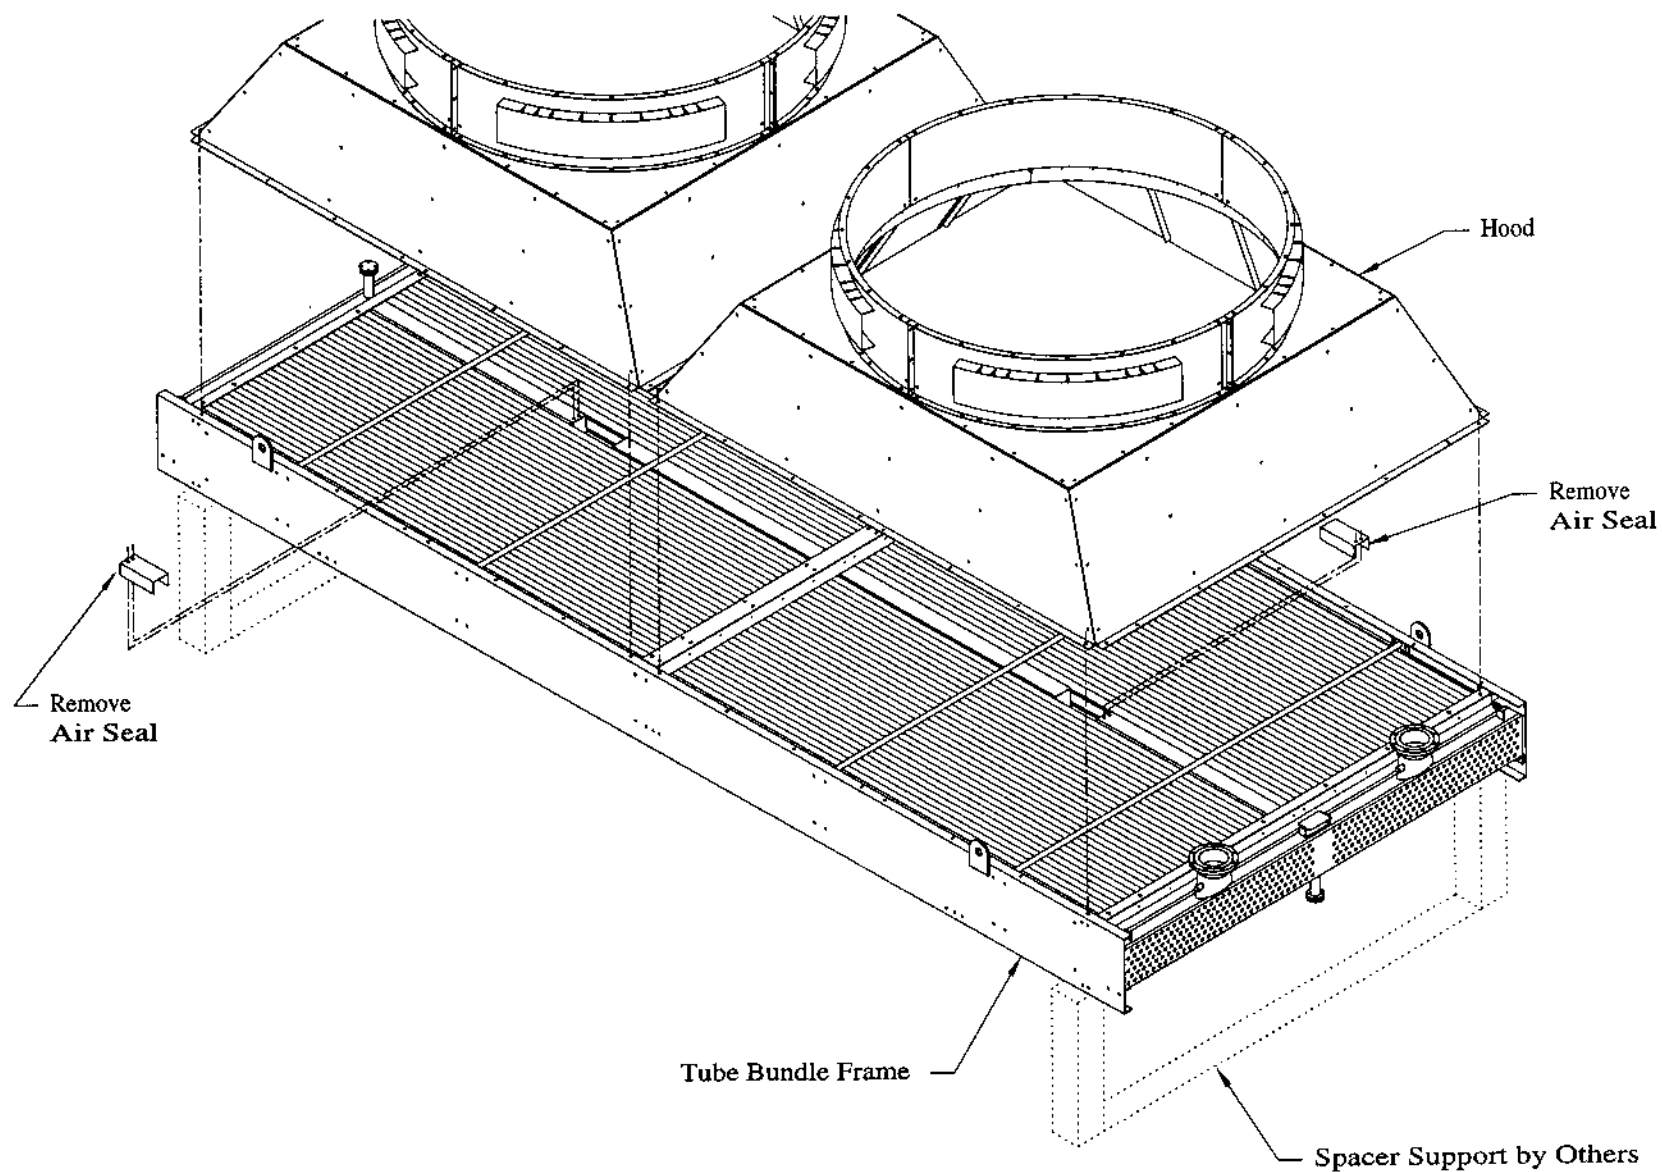

FIG. B4 - HOODS
6. Place tube bundle frame, with louvers and steam coil, if required, on a 4 ft. (1.2 m) spacer support. Attach hood assembly to tube bundle frame assembly. Lift hood using eyebolts or hooks through the fan ring stiffeners or through the top flange holes at splice bars. Remove shaft-thru air seals, if required, for installation of fan mount. See Fig. B4.